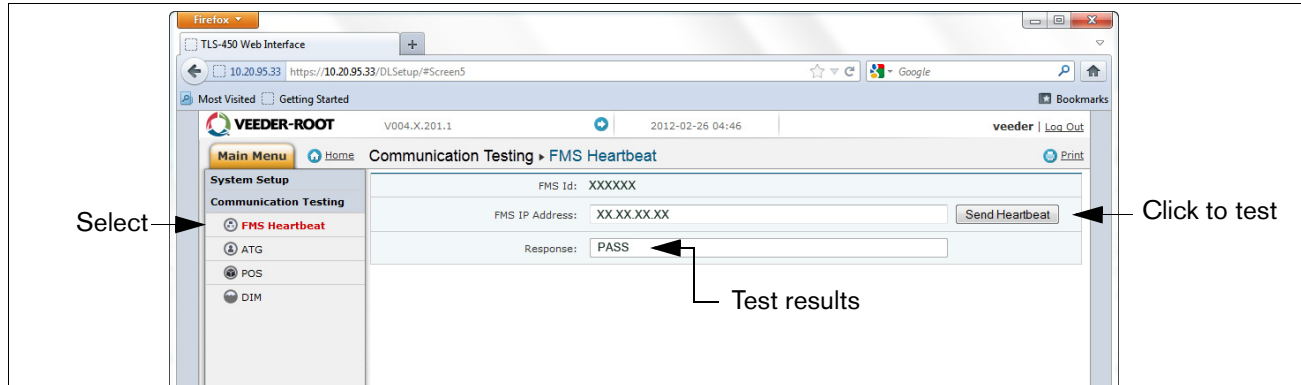

Figure 28. FMS Heartbeat Screen
22. The DL should now be configured to collect inventory and transactional data, which will be periodically retrieved by FMS. To verify connectivity with FMS, reconnect the DL to the network or cell modem. Go to the “DLSetup” application’s Communication Testing screen, click on “FMS Heartbeat”, then click on the “Send Heartbeat” button (see Figure 28). Wait for the “Response” text to indicate PASS or FAIL. A PASS confirms that the DL is successfully communicating with FMS. A FAIL indicates that the connection has failed and you will need to contact FMS or the network administrator for troubleshooting assistance.